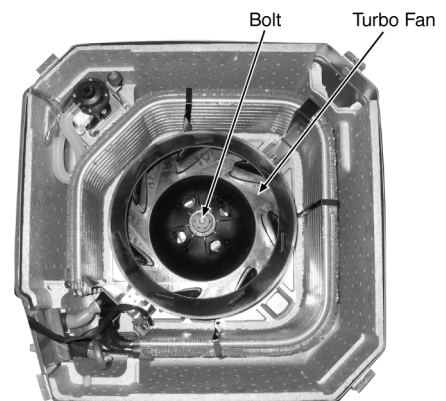

Fig. 7
7. Remove the Turbo Fan by removing the bolt (Fig. 7).